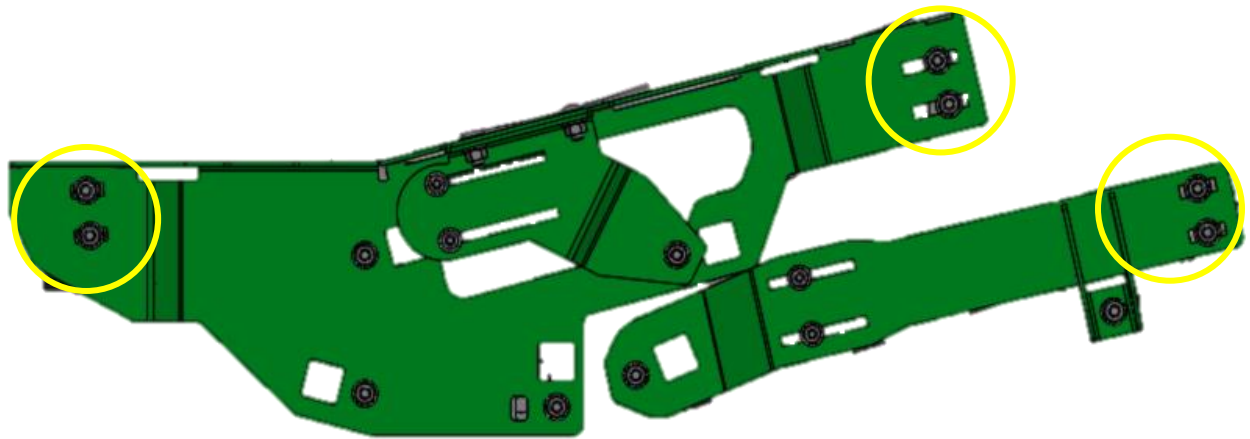

Figure 8 - RAPTOR-301, 302, 303 with Air Horn Driver Hardware circled (shown on frame)
- 9.5.1. Loosely attach hardware #3, #5, #7, & #13, to RAPTOR-301 and RAPTOR-302 Horn Brackets in locations shown circled in Figure 8 below. **Square Neck Bolt should be inserted on backside of Brackets, with remaining hardware above Brackets.**